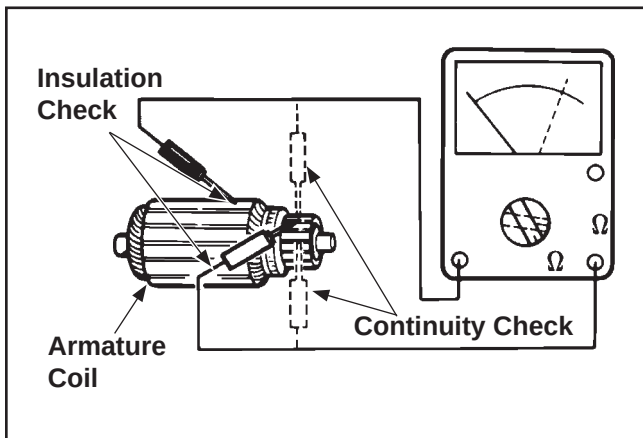

Figure 7-52. Checking Armature.
2. Use an ohmmeter set to the Rx1 scale. Touch the probes between two different segments of the commutator, and check for continuity. See Figure 7-52. Test all the segments. Continuity must exist between all or the armature is bad.
3. Check for continuity between the armature coil segments and the commutator segments. See Figure 7-52. There should be no continuity. If continuity exists between any two, the armature is bad.